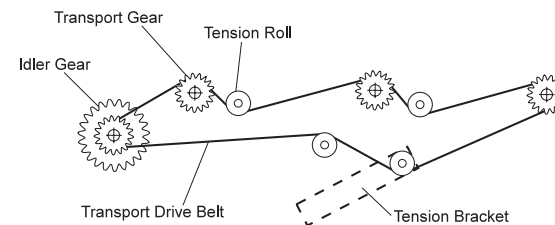

Figure 3
5. Let the Drive Belt on the Transport Gear and the Idler Gear as shown in the figure 3.
8. Install the Tension Bracket to the Transport Frame. Hand the Tension Roll to the rough part (inside) of the Belt as shown in the figure 3.